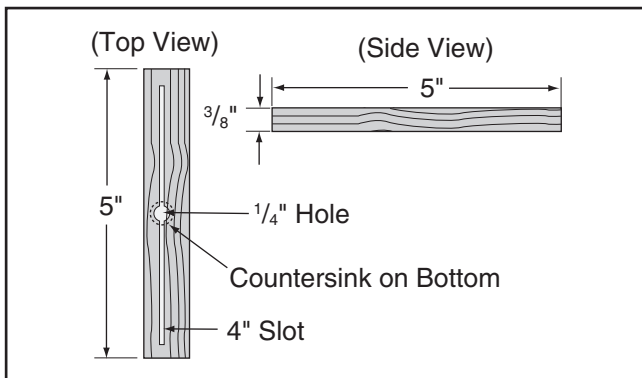

Figure 71. Miter bar pattern.
5. Cut a miter bar approximately 5" long that will fit in table miter slot, as shown in **Figure 71**.